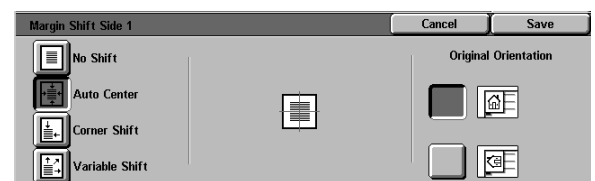

Figure 20: Margin Shift screen with Auto Center selected
- 3 Touch the **Auto Center** button to display the Auto Center detail screen, as illustrated in Figure 20.